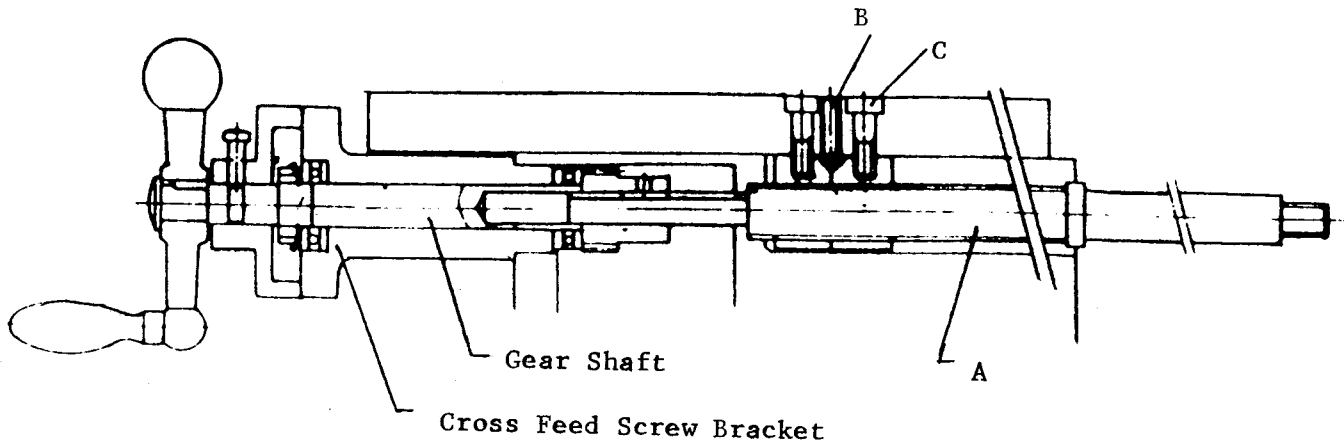

Fig. 16
- b. Pull out cross feed screw (Fig. 15) from bracket and assemble new screw (Fig. 16) with cross feed screw bracket (Fig. 15). Fix the new screw on the cross feed nut of saddle. Adjust the adjusting block to control the backlash of the cross feed screw with bolt "B" and "C". (Refer to item 5-3.)